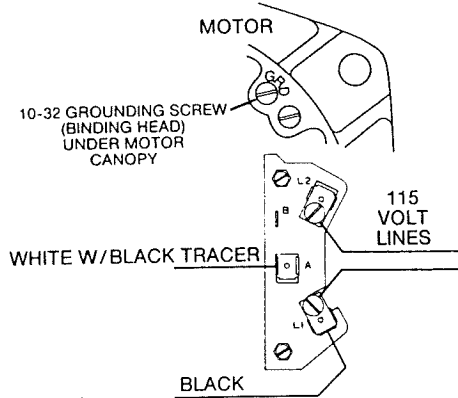

Figure 13 — 115V Wiring diagram
3. Connect ground wire first. Connect to ground first, then to green grounding terminal provided under motor canopy (see Figures 13 and 14) identified as GRD. Make ground connection to this terminal. **Do not** connect motor to electrical power supply until unit is permanently grounded; otherwise serious or fatal electrical shock hazard may be caused.